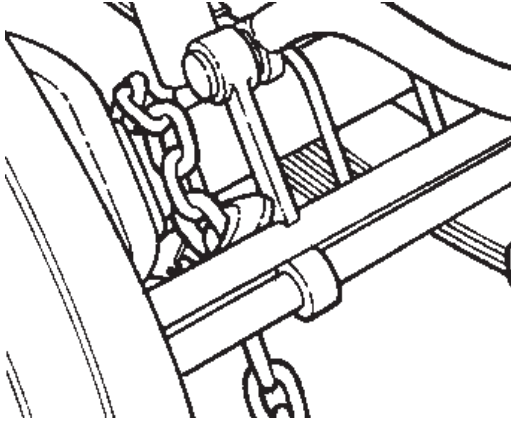

FIGURE 4.8 AXLE HOOK-UP
- (b) Route free end of chain to vehicle to be towed and attach to chassis around axle, leaf springs, frame or "A" frame. See Figures 4.8 thru 4.11.